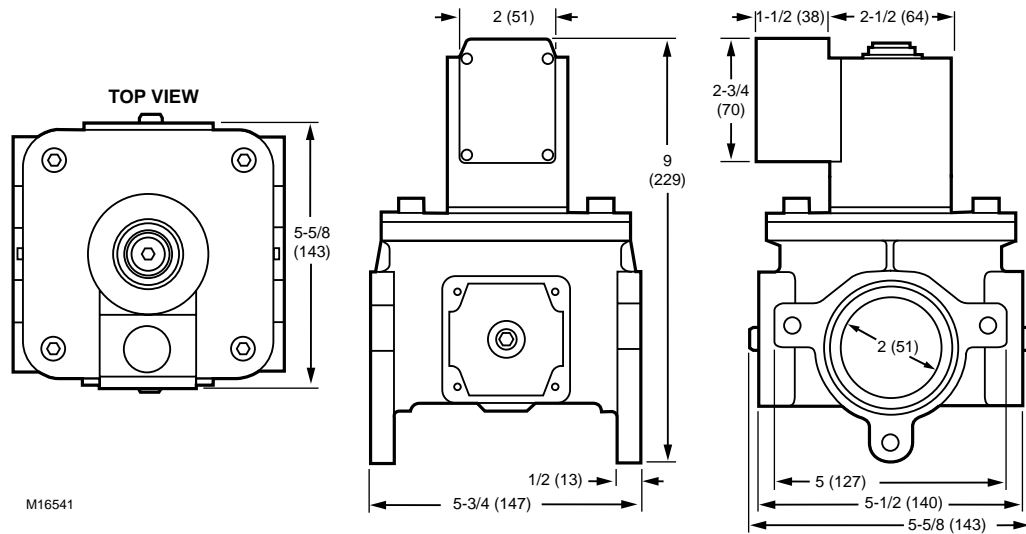

Fig. 10. Approximate dimensions of V4297A1005 SSOV in in. (mm).
**Dimensions:** See Fig. 10 and 11.